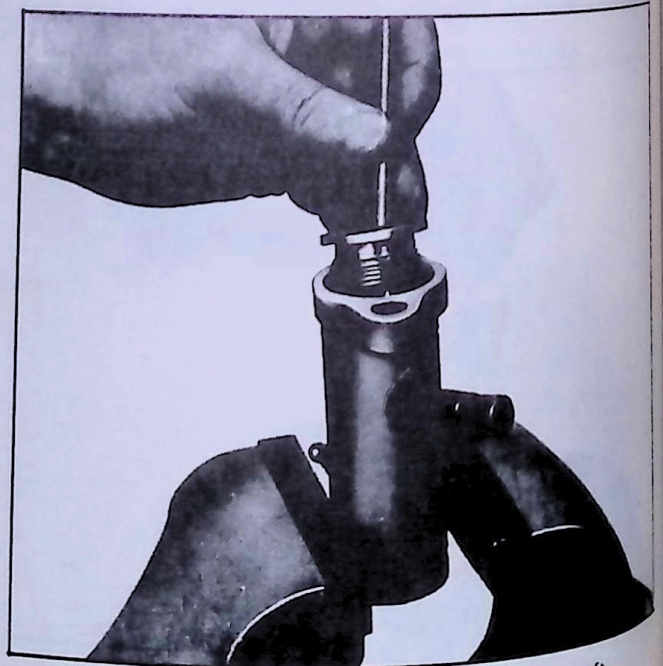

Fig. 70—Replacing Adjuster Plug and Shaft
2. Clamp the adapter in vise, put the shaft through the seat in the adjuster plug and screw adjuster plug in sleeve (fig. 70).